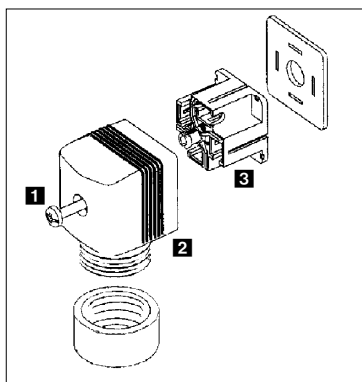

Fig. 3.3 Plug assembly type 2508
1. To open the connector remove screw **1** and the plastic ring (Fig. 3.3).